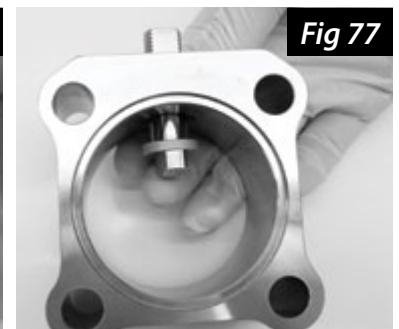

Fig 77
2. Insert the valve stem through the inside of the valve body (Fig 77).